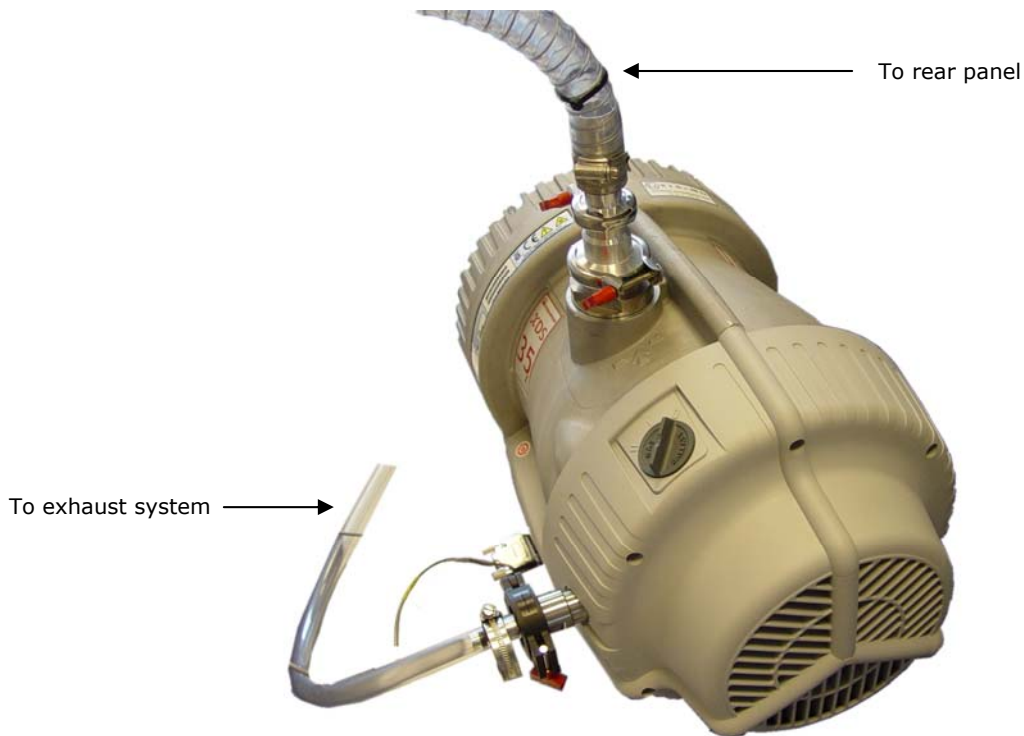

Figure 10 - Scroll pump tubing connections
14. Using the appropriate components, configure the vacuum hose as shown in Figure 10.